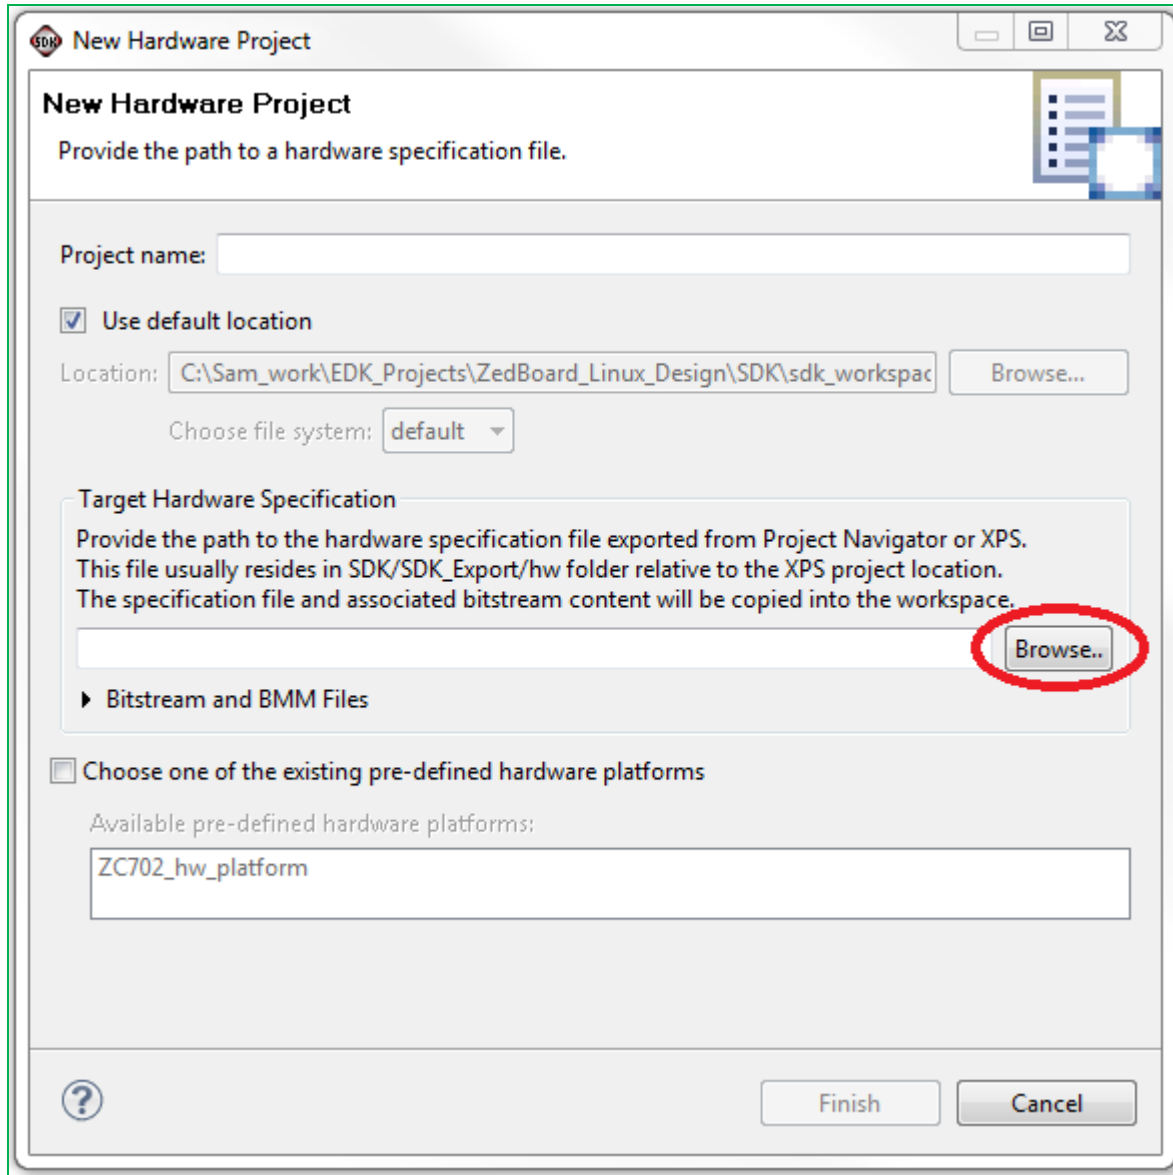

Figure 2. Importing HW Specification
- b. Click the browse button in this dialog window seen circled in figure 2. You must now select the hardware platform specification file. If you are using the hardware platform that you built in XPS, then it will be located at <pkg>\hw\xps_proj\SDK\SDK_Export\hw\system.xml. If you are using the prebuilt hardware platform included with this package, then select <pkg>\sw\hw_platform\system.xml.